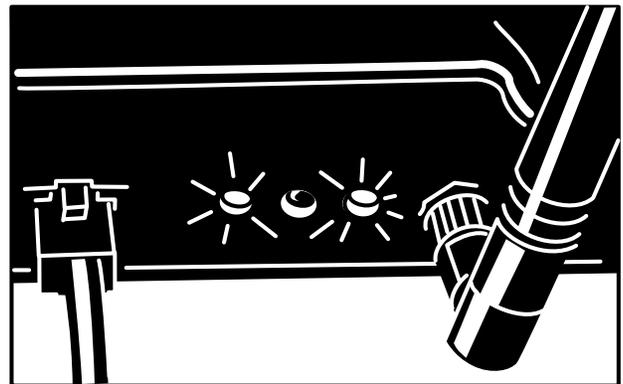

Figure 12
4. If the BaseStation connects to the Internet, ensure that the BaseStation contacts the myTurf servers and establishes a connection (Figure 12).